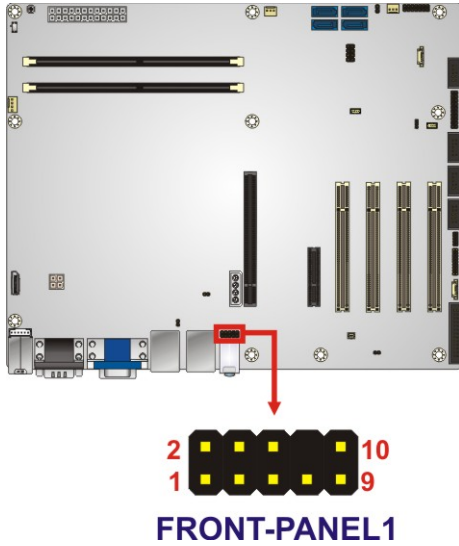

Figure 3-12: Front Panel Audio Connector Location
- CN Location:** See **Figure 3-12**